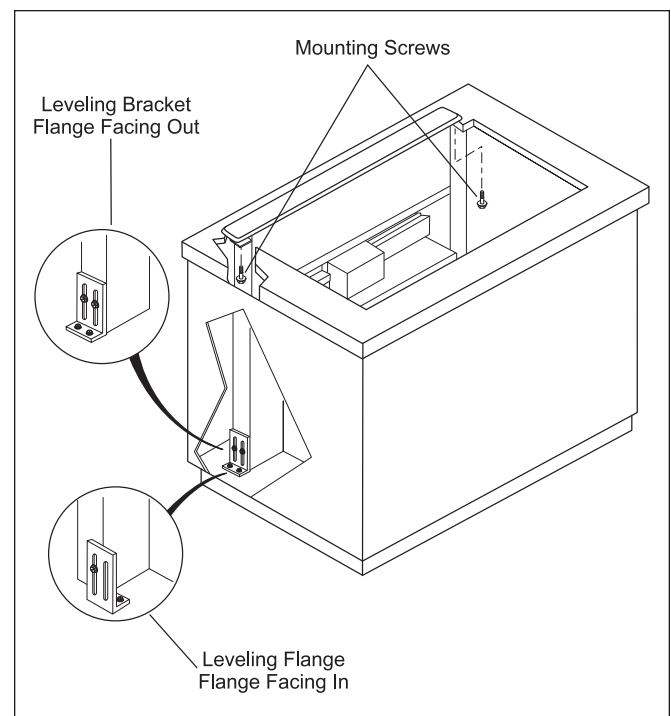

Figure 2-49 Mounting Downdraft Into Cabinet
2. Secure the downdraft to the countertop by holding the downdraft against the back of the countertop cut-out and tightening the two mounting screws (one on each end of unit) on the underside of the countertop. (See Figure 2-49)